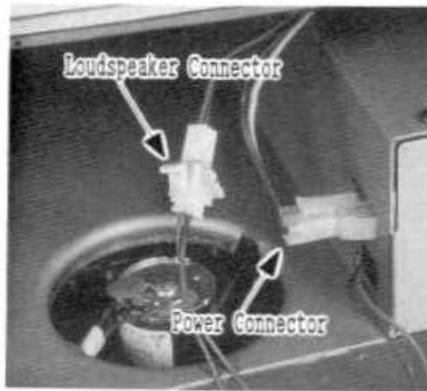

Figure 8
- 9) Fold the lower half of the chassis away from the upper half, placing a hook or similar support of about the same thickness as the heatsink under the bottom half as shown in Figure 8.